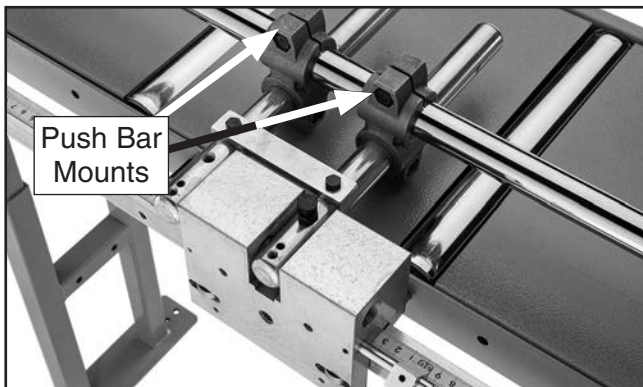

Figure 9. Push bar and mounts.
8. Set and lock measuring gauge at 0" then line up push bar mounts at base of carriage (see **Figure 9**). Slide push bar through mounts with workpiece stop positioned on bandsaw side.